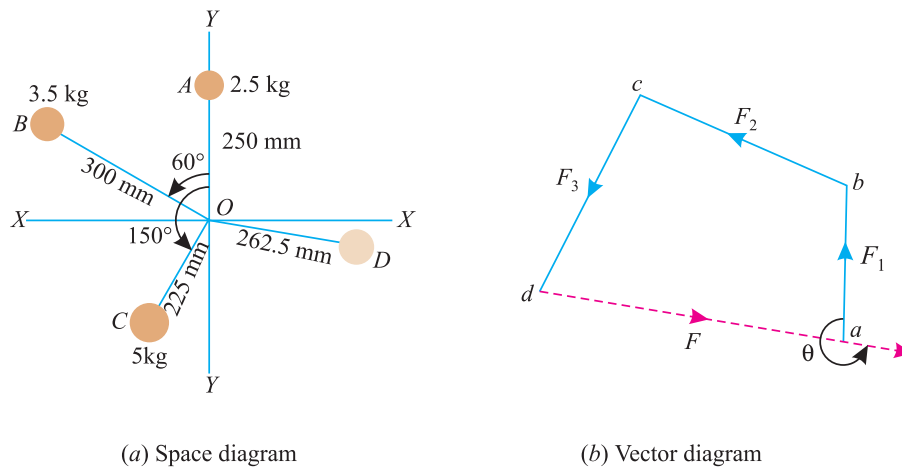

Fig. 29.6.
1. First of all, draw the space diagram, with the given masses and their positions as shown in Fig. 29.6 (a).